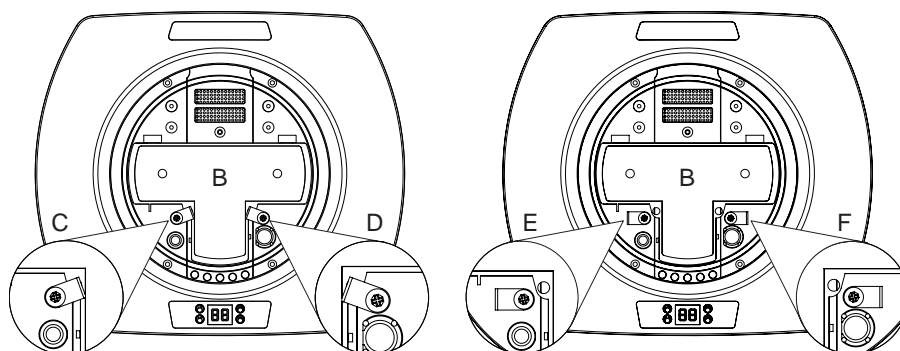

Figure 8-3: Loosen filter retaining screws
- **Where the filter is secured with retaining clips:** Whilst holding the filter housing (B), loosen the screws C and D with a Philips head screwdriver. turn the clips (E and F) outwards, away from the magnets beneath them (Figure 8-3).
3. Reposition the retaining bracket, or for units with retaining clips, realign the clips with the magnets (Figure 8-3, C and D).